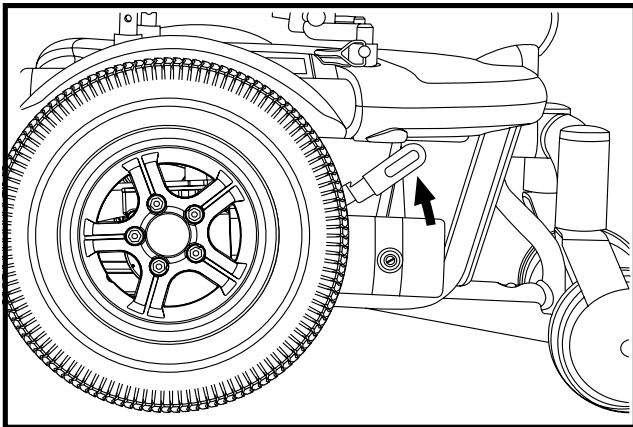

Figure 8. Drive Mode (Drive Engaged)
2. Pull up both manual freewheel levers to engage the motors (drive mode). See figure 8.